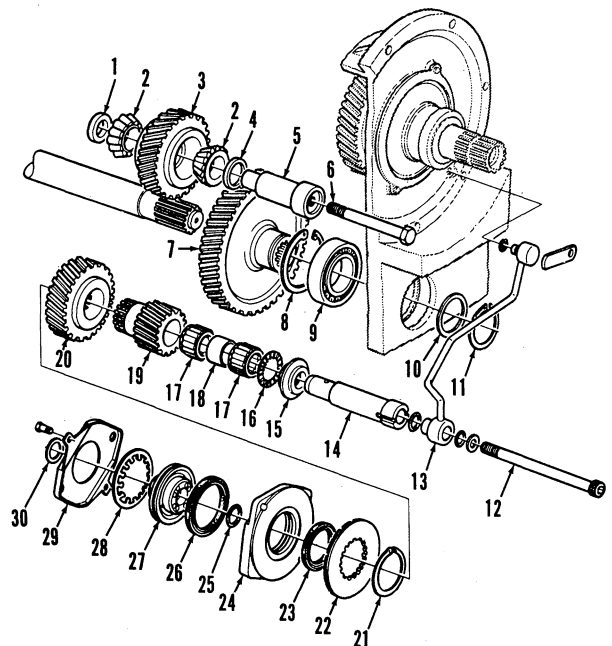

Fig. 208—Exploded view of front section pto idler gears and drive gear used on 4050, 4250 and 4450 Quad-Range models equipped with MFWD.
Inspect all parts for wear or other damage and renew if necessary. If upper idler gear or bearings are renewed, check and adjust gear end play prior to reassembly as follows: Assemble thinner spacer washer (4—Fig. 208), idler gear (3) with bearings and thicker spacer washer (1) onto the idler shaft. Press down on upper bearing while rotating gear to seat bearings, then use a feeler gage to measure clearance (end play) between thicker washer (1) and bearing inner race. Desired end play is 0.001-0.003 inch (0.03-0.07 mm). The end play is adjusted by installing a different thickness thin washer (4—Fig. 208). The washer is available in different thicknesses in increments of 0.002 inch (0.05 mm).
To disassemble, remove sheet metal cover (29—Fig. 208) and separate components from piston housing (24). Inspect all parts and renew if necessary.
192. PTO DRIVE GEAR. To remove drive gear (7—Fig. 208), remove pto idler gears as outlined in paragraph 190. Remove mechanical front-wheel drive (MFWD) clutch as outlined in paragraph 7. Separate transmission from clutch housing and remove MFWD drive shaft and drive gear as outlined in paragraph 119.
Remove snap ring (11—Fig. 208) and spacer (10) from front of gear hub. Pull gear rearward out of bearing, then lift from clutch housing. Remove snap ring (8), then use a slide hammer to pull bearing rearward from housing. Press bearing inner race off gear hub.